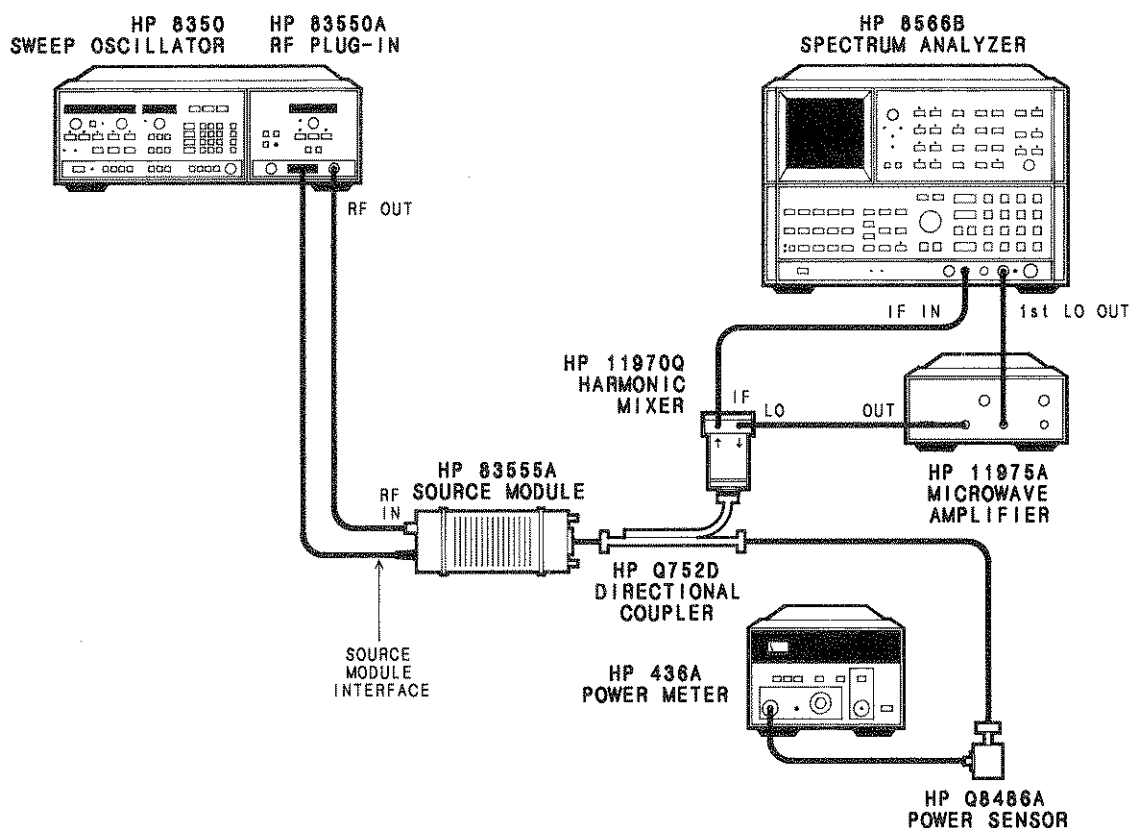

Figure 2-8. Spurious Signals Test Setup
1. Connect the equipment as shown in Figure 2-8.